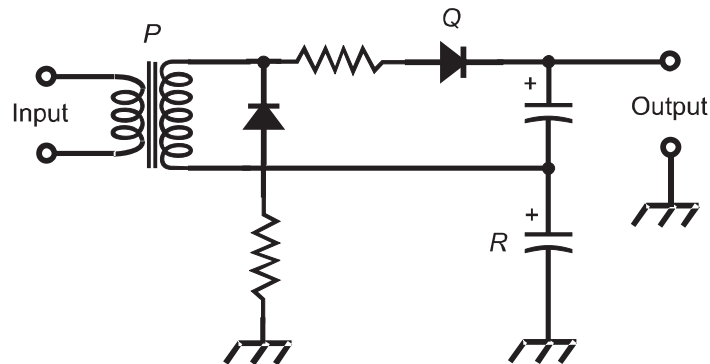

Fig. Exam-3. Illustration for Final Exam Questions 29 through 32.
29. Figure Exam-3 is a schematic diagram of
30. In the circuit of Fig. Exam-3, what is the function of the component labeled *P*?
31. In the circuit of Fig. Exam-3, what is the function of the component labeled *Q*?
32. In the circuit of Fig. Exam-3, what is the function of the component labeled *R*?